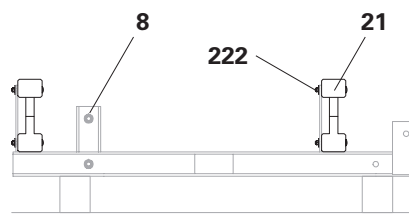

Fig. B6.06
3. Pre-drill Formwork Girder GT 24 (**21**) with $\varnothing 9$ mm and screw on with F.H. bolts DIN 603 M8 x 100 MU (**222**) to the Finishing Platform Girder ACS (**8**). (Fig. B6.06)